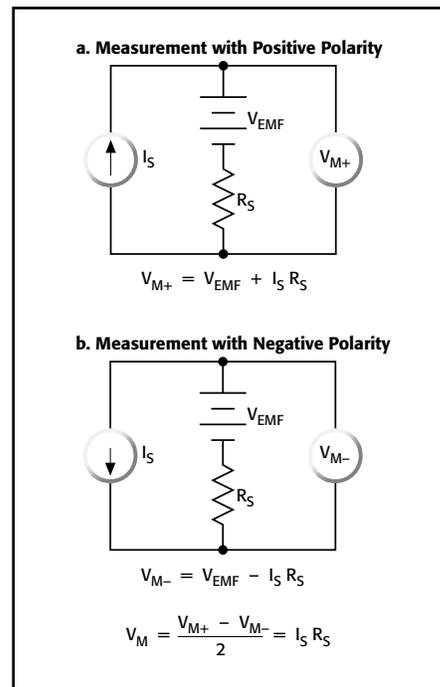

Figure 5b. Canceling thermoelectric EMFs with Current Reversal
- **Current Reversal Technique/Two-Step Delta Technique (Figure 5b)**
- Thermoelectric EMFs can also be cancelled by taking two voltages with test currents of opposite polarity. The voltage due to the test current can now be calculated using the formula shown in Figure 5b. This method provides 2x better signal-to-noise ratio and, therefore, better accuracy than the offset compensation technique. (This is the method employed by the Model 2182A Nanovoltmeter/Model 622x Current Source combination.)